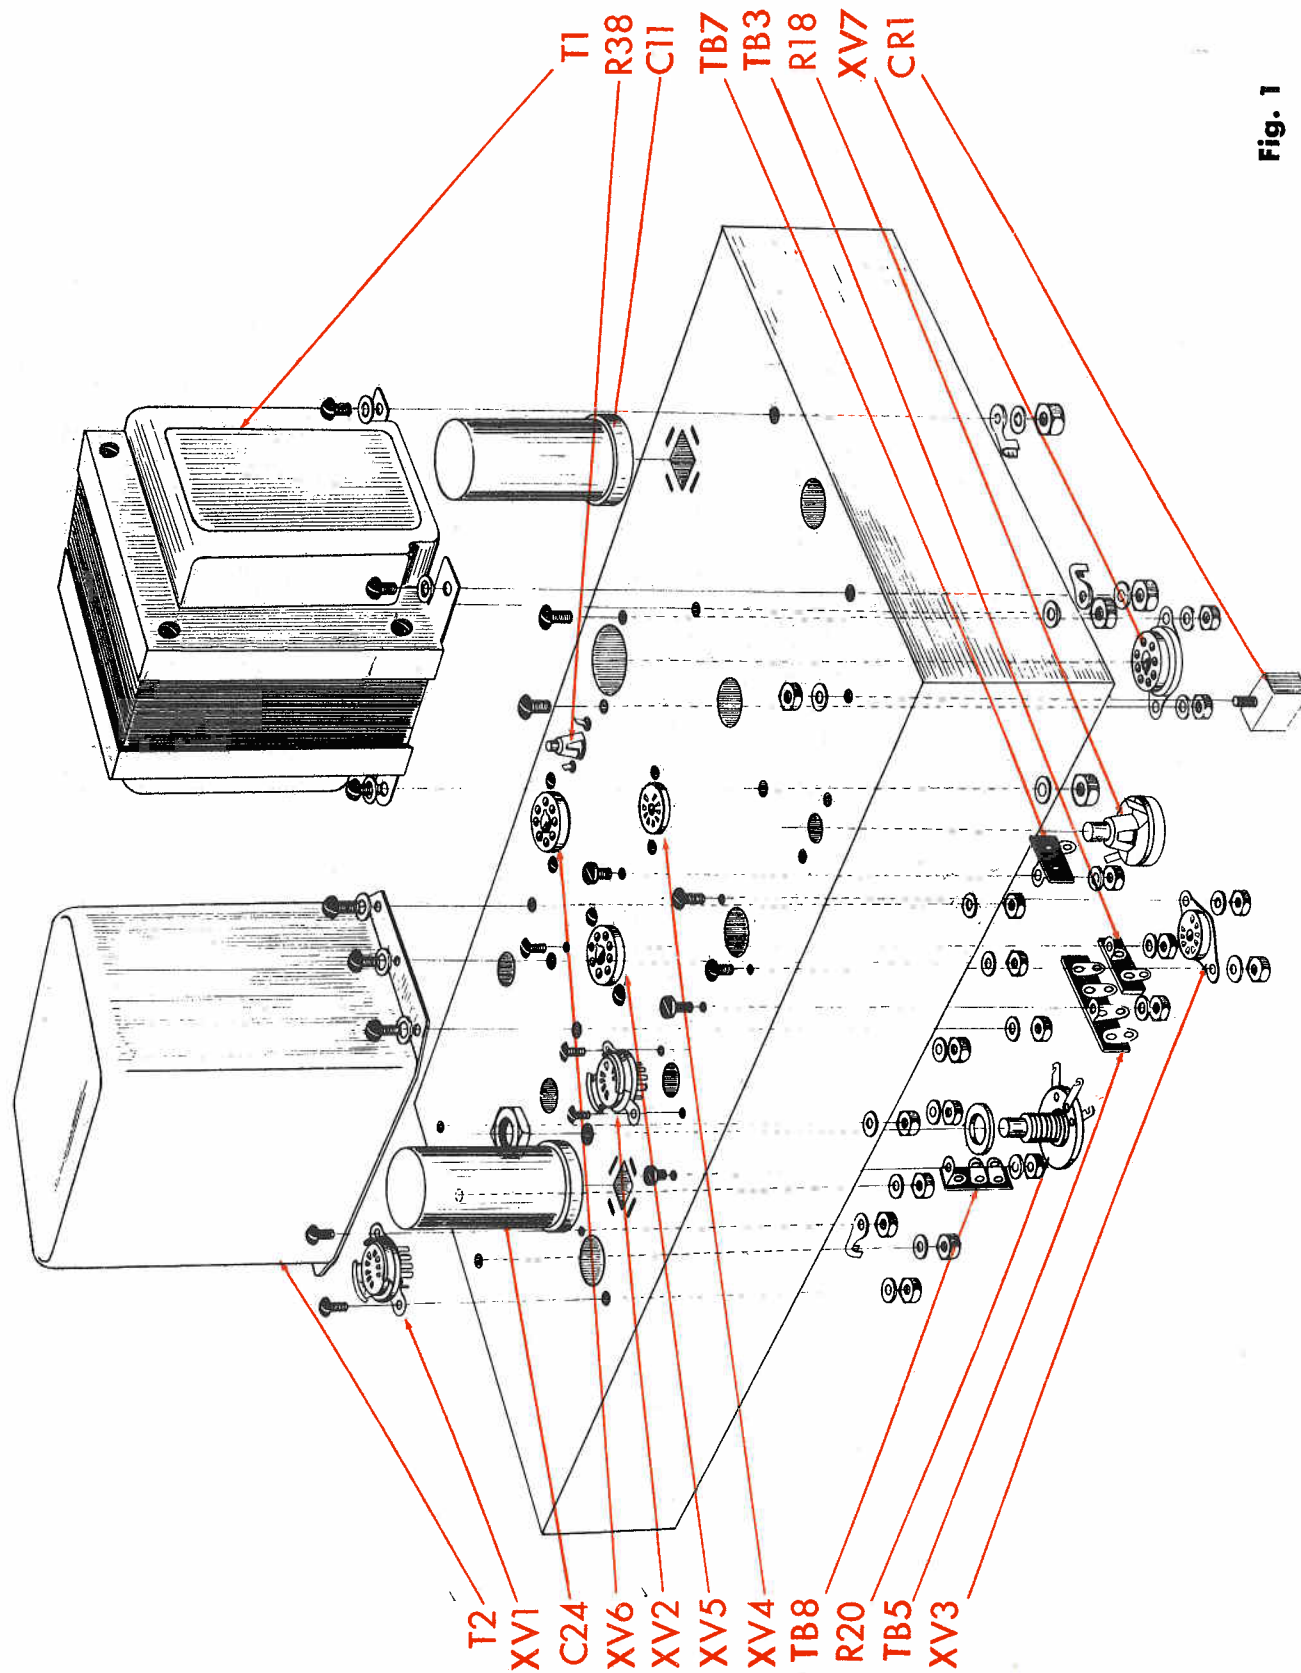

Fig. 1
1. (✓) Fig. 1. Mount 9 and 7 pin sockets with shield support, XV1 and XV2 respectively, as shown. Use two #4-40 screws and two #4 hex nuts on each. Use two #4 lockwashers on XV2. Use one #4 lockwasher and one #4 ground lug on XV1.
2. (✓) Fig. 1. Mount socket XV3 and XV4 as shown. Use two #4-40 screws, two #4 lockwashers and two #4 hex nuts on each.
3. (✓) Fig. 1. Mount sockets XV5, XV6 and XV7 as shown. Use two #6-32 X 1/4 screws, two #6 lockwashers and two #6 hex nuts on each.
4. (✓) Fig. 1. Press 10K Ω pot, R18 and 50K Ω pot, R38 through holes in chassis, noting direction in Fig. 4. Press pots firmly toward chassis until a click is heard.
5. (✓) Fig. 1. Mount open 100 Ω pot., R20 as shown. Use 3/8" lockwasher and a 3/8" hex nut.
6. (✓) Fig. 1. Mount the 50ma rectifier, CR1, near 10K Ω snap in pot, R18. Note CR1 orientation so that the positive (+) side is located toward the front of the chassis. Use one #6 nut and one #6 lockwasher for mounting.
7. (✓) Fig. 1. Mount the output transformer, T2, as shown; oriented so that the leads emerge from the holes. Use six each of the following: #10-24 X 3/8 screws, #10 flat washers, #10 lockwashers, and #10 hex nuts. Add cable clamp under one of the nuts and pull the four wires emerging from the hole near the rear of the chassis through this clamp. See Fig. 4.
8. (✓) Fig. 1. Mount the power transformer, T1, as shown; oriented so that the two black, two green and one yellow leads are near the side of the chassis.
9. (✓) Fig. 1. Mount the 40-20mfd electrolytic condenser, C11, near the power transformer. Note position of capacitor terminals on Fig. 4. The mounting taps are inserted into the slots provided on the chassis and twisted somewhat less than a quarter turn. DO NOT twist the tabs excessively or they will shear off. Solder one mounting tab to chassis ground.
10. (✓) Fig. 1. Similarly, mount and solder the 20-20-10-10mfd electrolytic capacitor, C24, between V1 and V2. Note position of capacitor terminals on Fig. 4.
11. (✓) Fig. 1 & Fig. 4. Mount one post right terminal strip, TB3, as shown on Fig. 4. Use one each #6-32 X 1/4 screws, #6 hex nut, and #6 lockwasher.
12. (✓) Fig. 1 & Fig. 4. Similarly, mount three post-two left with ground terminal strip, TB5, as shown on Fig. 4.
13. (✓) Fig. 1 & Fig. 4. Similarly, mount one post right terminal strip, TB7, as shown on Fig. 4.
14. (✓) Fig. 1 & Fig. 4. Similarly, mount two post upright terminal strip, TB8, as shown on Fig. 4.